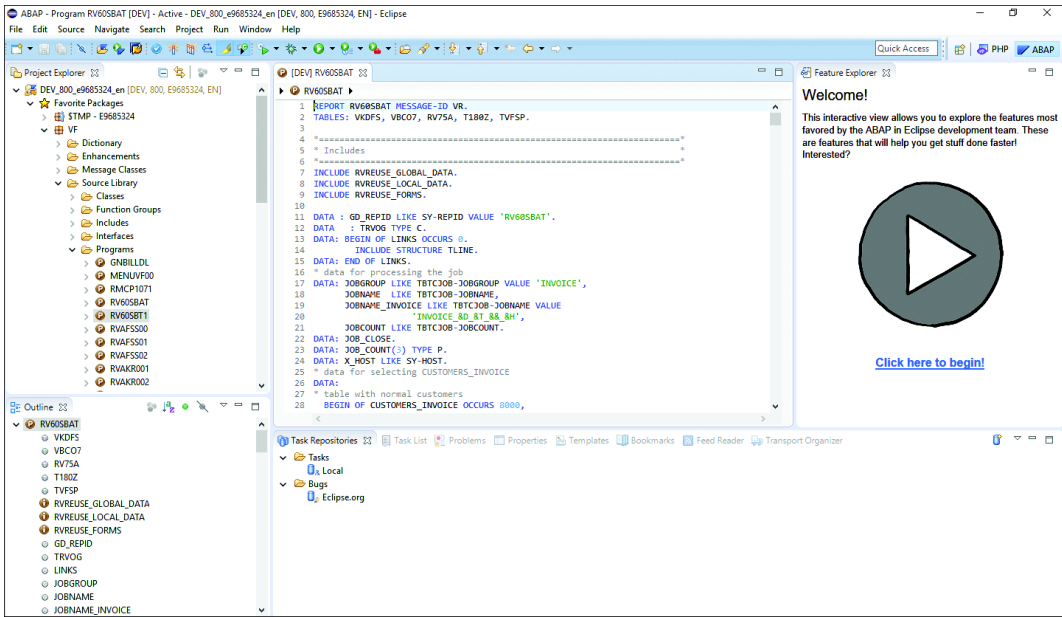

Figure 3.21 Project Explorer
8. Once you've established a connection, you can use the Eclipse PROJECT EXPLORER (see Figure 3.21) to open the objects of the backend ABAP packages and add them to your project.